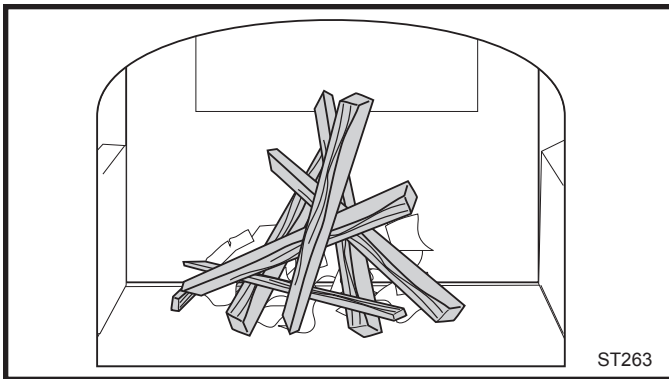

Fig. 37 Start the fire with newspaper and dry kindling.
2. Place several sheets of crumpled newspaper in the stove. Place six or eight pieces of dry kindling split to a finger-width size on the paper. On the kindling, lay two or three larger sticks of split dry wood approximately 1-2" (25-51 mm) in diameter. (Fig. 37)